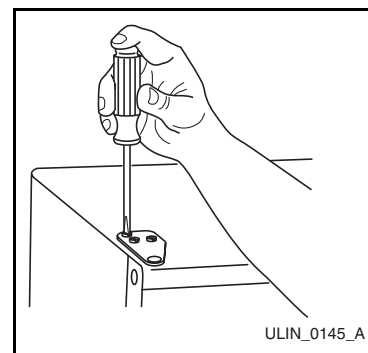

Figure 23
11. Fasten upper hinge to unit (three screws) (**Figure 23**). Partially tighten screws until door is aligned.